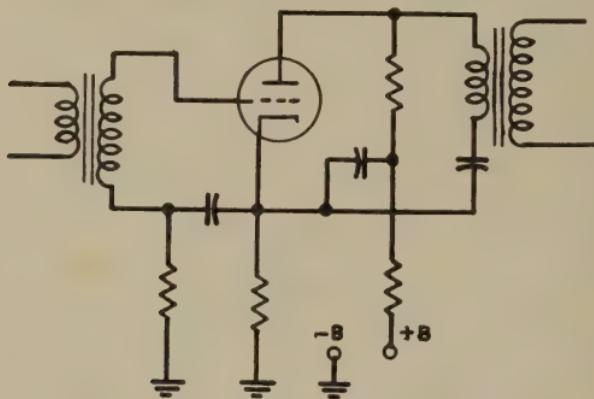

FIG. 4-4.—Parallel-fed amplifier system.
**Ans.** Figure 4-4 illustrates the wiring diagram of a parallel-feeding system for prevention of core saturation.